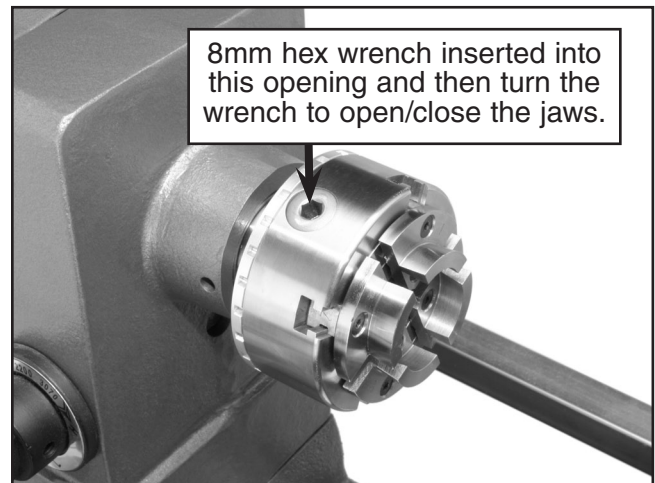

Figure 3. Chuck Operation.
The insert must be firmly seated against the lathe spindle shoulder (**Figure 3**).
1. With the chuck mounted on the lathe, open/close the chuck jaws so that the workpiece can be placed between the jaws (**Figure 3**).